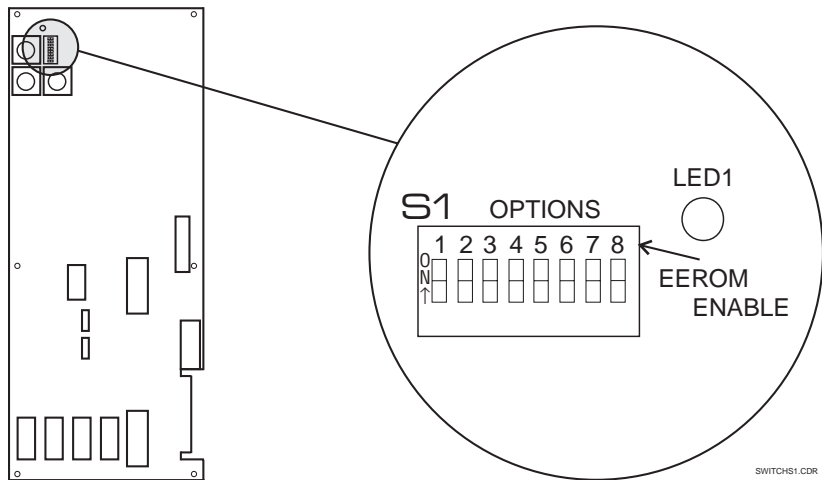

Figure E-2. Di-Metric Plus CPU Option Switch S1
7. You will see the CPU board mounted on standoffs on the right side of the Di-Metric Plus compartment. Locate the CPU option switch (S1), which is located in the extreme upper left of the CPU board. The option switch is made up of a series of eight numbered slider switches, as shown in Figure E-2.